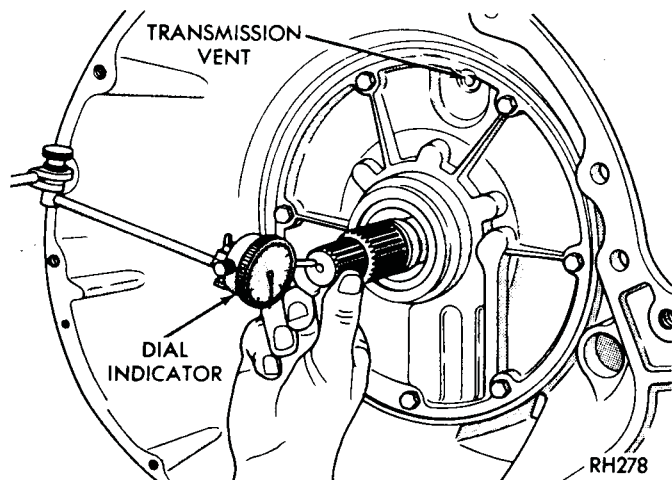

Fig. 5—Measuring Input Shaft End Play
(1) Attach a dial indicator to transmission bell housing with its plunger seated against end of input shaft (Fig. 5).